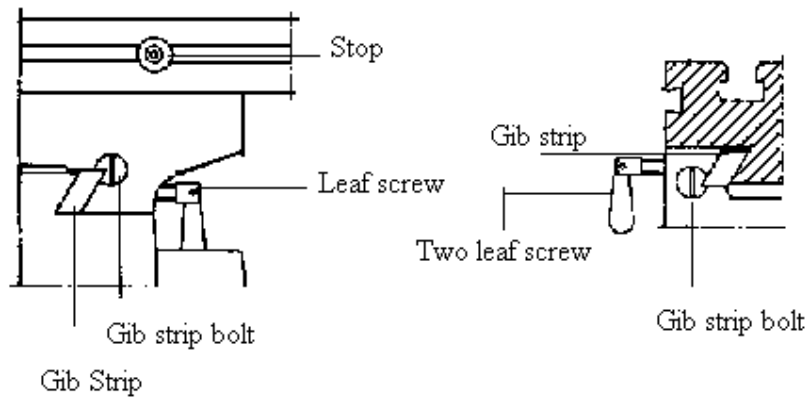

Fig. 3.
7. ADJUSTING TABLE SLACK AND COMPENSATE FOR WEAR (see Fig. 3)
8. CLAMPING, TABLE BASE, AND MACHINE BASE (see Fig. 3)